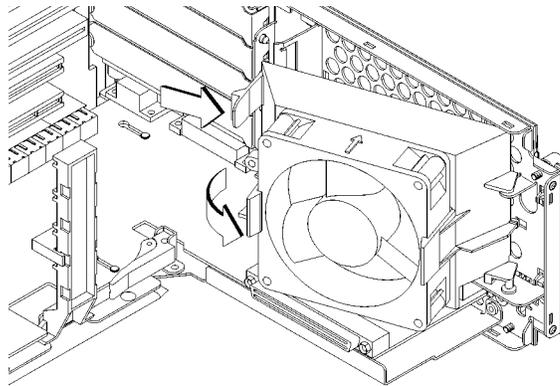

Figure 52
- 2 Press the fan release clip and rotate the fan, as shown in Figure 52.